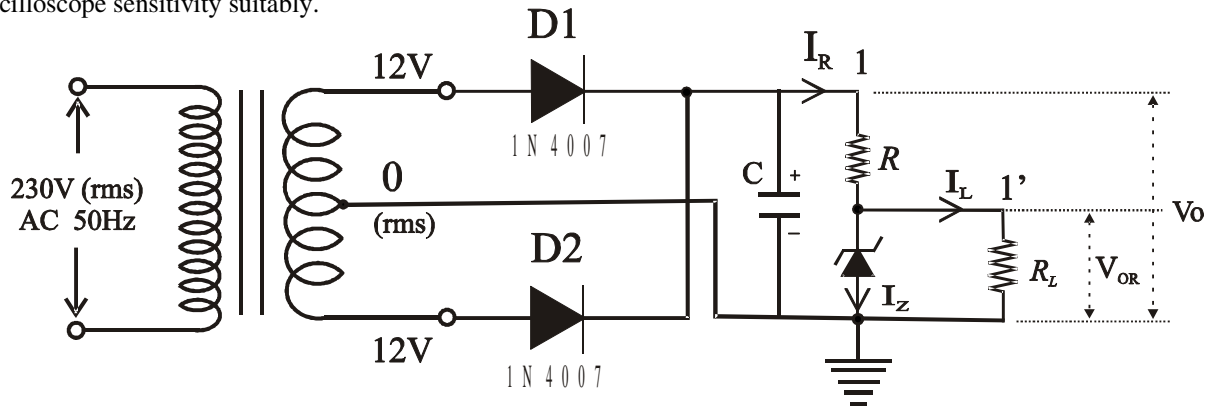

Fig. 3.2 Regulated Power Supply with zener diode.
1. Connect a zener diode D_Z with series resistance $R = 560 \Omega$ as shown in Fig. 3.2. The voltage across D_Z will now be the desired (regulated) output voltage V_{oR} which will supply current I_L to the external load R_L .